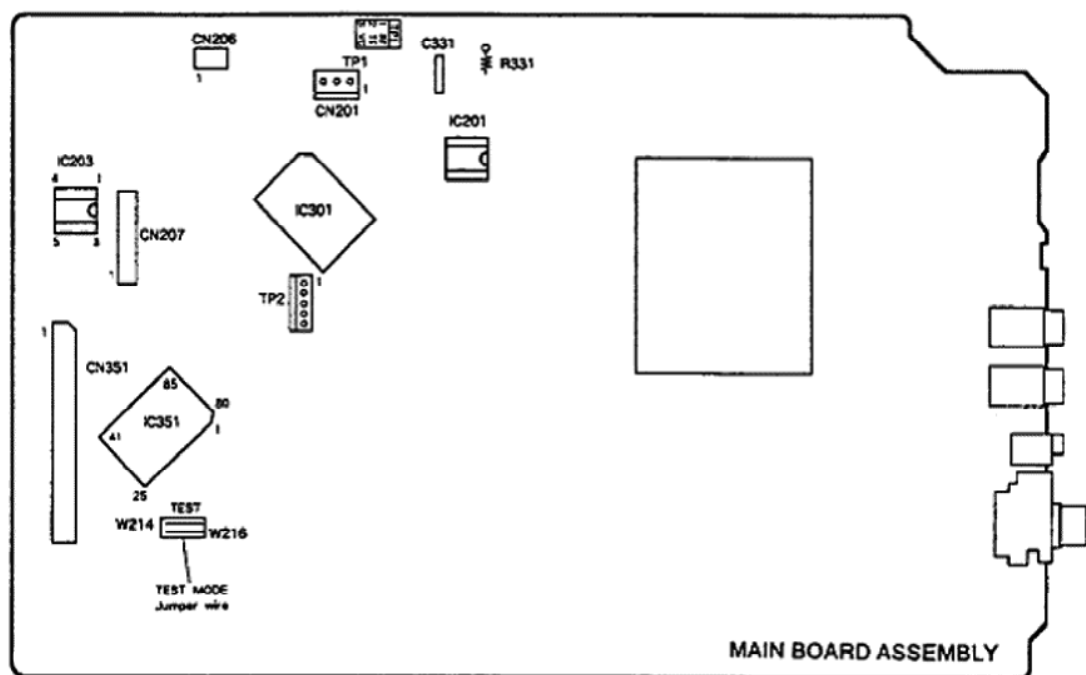

Figure 1 Adjustment Locations
(For the location of CN206, see figure 1 on page 42)
2. Short the test mode jumper wires. (See Figure 1.)